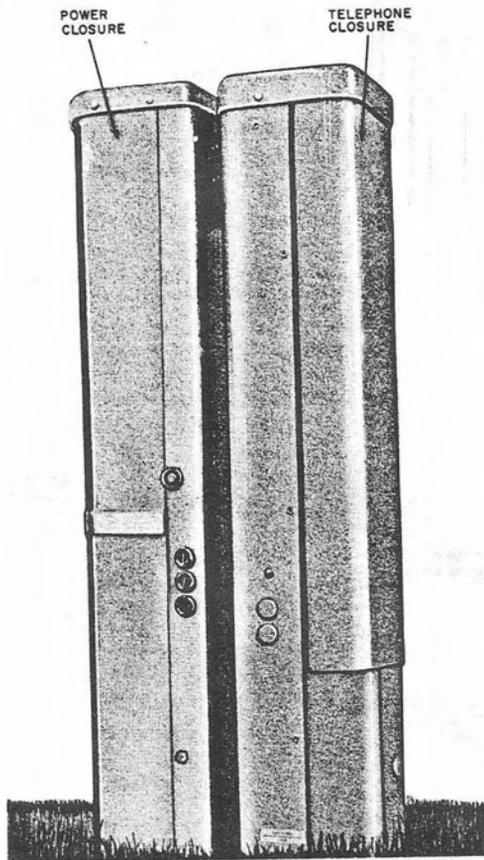

Fig. 14—Joint Installation—Telephone and Power
4.08 Using the joint mount kit instruction sheet and hardware, mount the closures as shown in Fig. 14.